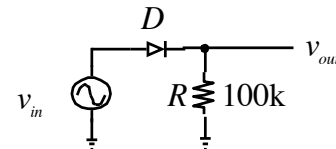
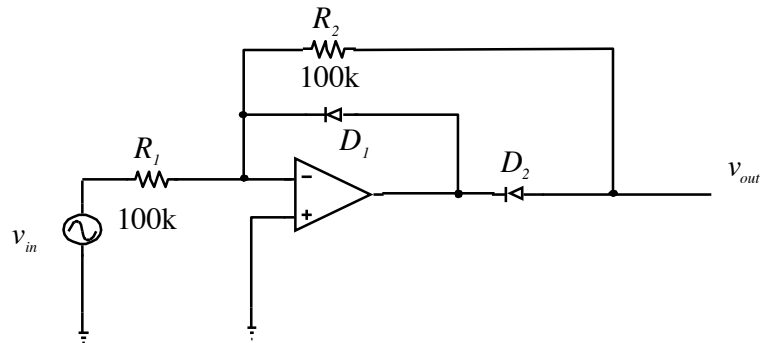
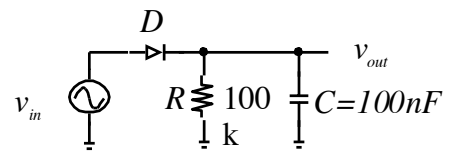
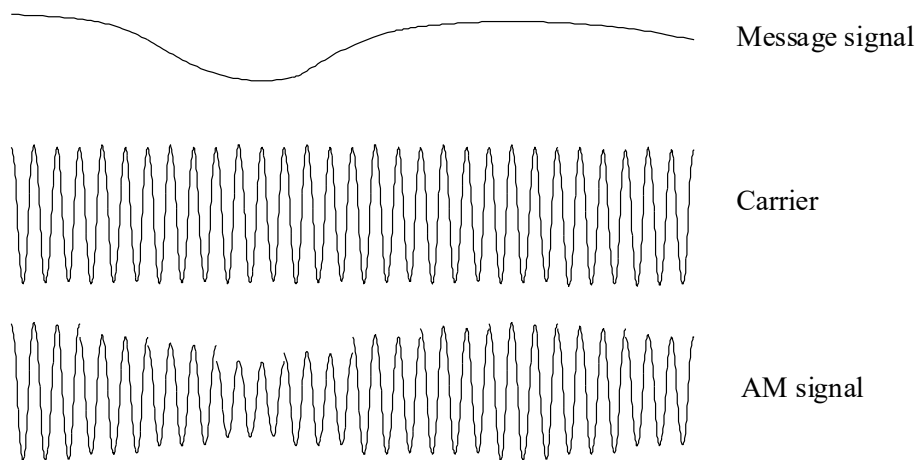

Figure 2.2: Positive half-wave rectifier
Figure 2.3: Precision (inverting) half-wave rectifier
Figure 2.4: Positive peak detector
Figure 2.7 Amplitude Modulation in the Time Domain
By adding a capacitor to the output of either half-wave rectifier in Figures 2.2 and 2.3, a circuit called a peak detector is formed which 'remembers' the peak value of the input signal. Figure 2.4 shows the modification for Figure 2.2. The length of time which the circuit 'remembers' peak values is determined by
- E2.** Build two half-wave rectifier circuits: build Figure 2.2 using a silicon (Si) diode and $R = 100$ k Ω , and the precision half-wave rectifier in Figure 2.3. Use standard ± 15 V supply voltages for the 741 op-amp. Apply a 5 V(peak-to-peak), 1 kHz sine wave, and sketch the input and output waveforms for both circuits. What are the peak output voltages of each circuit? How do the two waveforms differ?
- E3.** Build the positive peak detector in Fig. 2.4 by placing a 100 nF capacitor at the output of the positive half-wave rectifier built in the previous step. Apply a 1 kHz sine wave to the circuit and sketch the resulting input and output waveforms. Add amplitude modulation (AM) and turn the sine wave into an AM signal. A sample AM signal is shown in Figure 2.7. On the function generator, in the Modulation section, select 'AM' and a particular waveform button and adjust the modulation dial. Sketch both the AM input signal and output of the circuit and notice how the peak detector 'rides' the top of the waves of the AM signal. (You should use 100Hz or lower to avoid signal aliasing.)